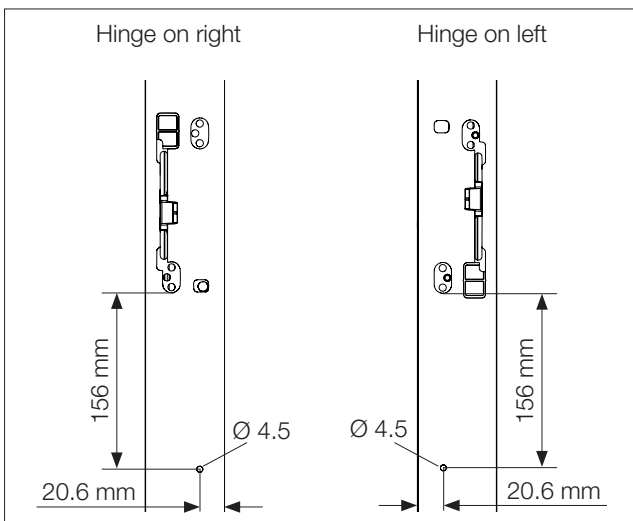

Fig. 18: Drilling the holes
- Drill appropriately sized holes in the required position in the frame of the VX IT glazed door (fig. 18).